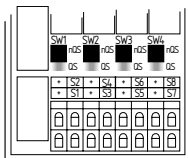

Fig. 4
- Pos. nQS (top) (see Fig. 4): not cross-wire short proof, suitable for 1-channel applications and applications with outputs connected to the positive potential in the control circuits.